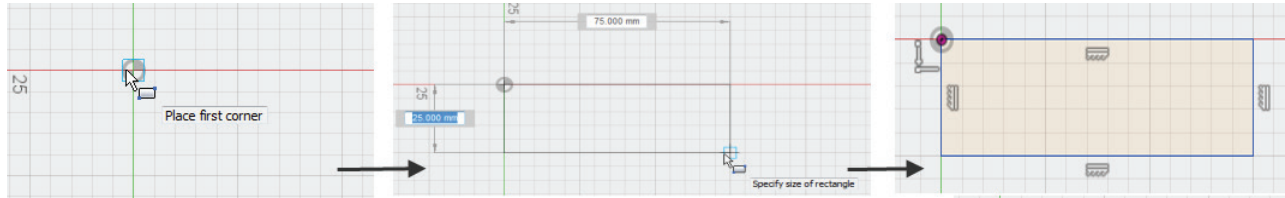

Figure-8. 2-Point Rectangle tool
- Click on the sketch canvas to specify first point of rectangle. You will be asked to specify the other corner point; refer to Figure-8.